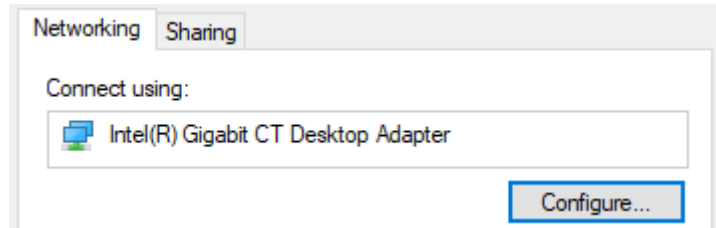

Figure 1 – Access to NIC driver settings
- Press the Configure button bellow the name of the physical network interface, as shown in Figure 1.